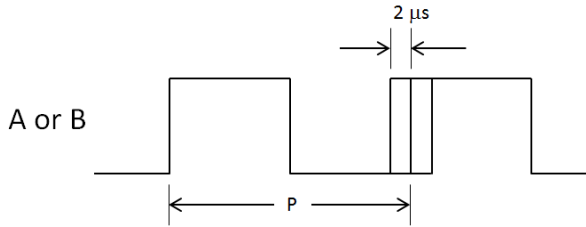

Figure 13: ABZ Jitter
The ABZ state is updated every 2µs. This means that at a high RPM, an ABZ jitter is caused by the discretization of the pulse length. For instance, at 15,000 RPM, the period (P) of the signal A or B is 16µs. Therefore, the jitter is $2/16 = 12.5\%$. Note that the raising edge of Z occurs exactly at the sensor zero position. Due to the 1 LSB hysteresis introduced on both the A and B channels, the Z edge is not necessarily synchronized with an A or B edge (see Figure 13).